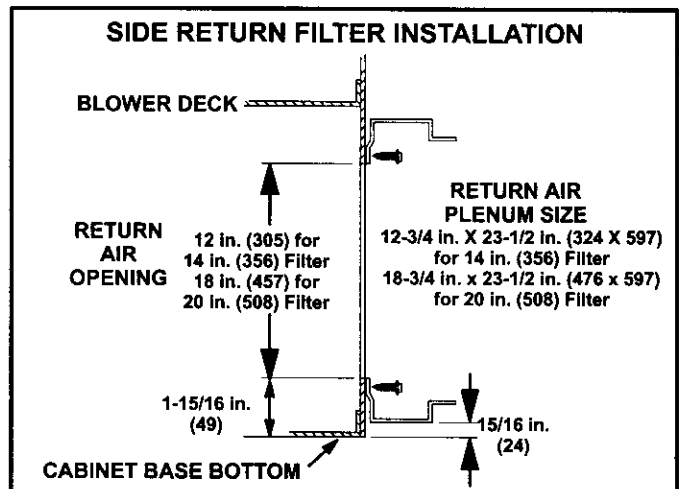

FIGURE 5
- 2 - Screw filter rack into place with the eight self-drilling, self-tapping screws provided. See figure 5.